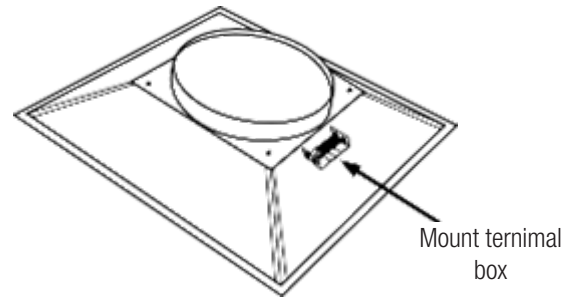

Fig. 3
4. Position the terminal box over the 5/16in hole on the top of the backpan (see Figure 3).
**NOTE:** If the diffuser mechanism was removed, reassemble it to the backpan using the four (4) screws. A small amount of silicon is installed on the screws to prevent movement due to vibration during shipping. This silicon does not need to be replaced unless the unit is to be shipped.